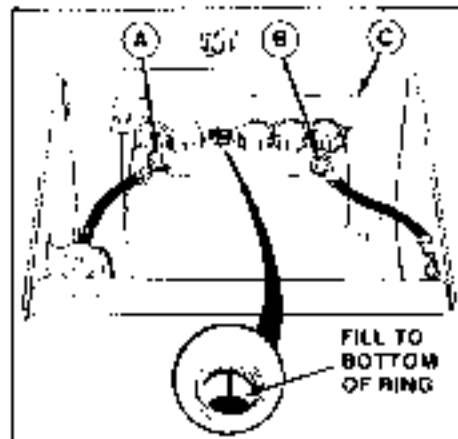

Figure 15. Battery Fluid Level
- Fluid must be even with split ring fill mark (Figure 15). If not, add distilled water.
1. Disconnect the cables from the battery, negative cable first (figure 15).
5. Reinstall battery and clamp (figure 15).